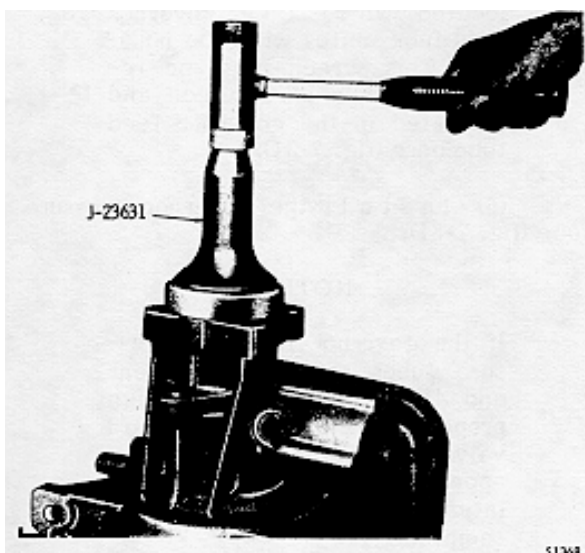

Fig. 7-29. Installing output shaft oil seal
(1) Coat the lip of oil seal 6 (B, foldout 9) with high temperature grease (MIL-G-3545 A or equivalent).
(2) Coat the outside circumference of the oil seal with nonhardening sealer. Start the oil seal, lip first, squarely into the rear bore of the transmission housing.
(3) Using installer tool J-23631, drive the oil seal into the housing until the installer seats against the housing (Fig. 7-29).